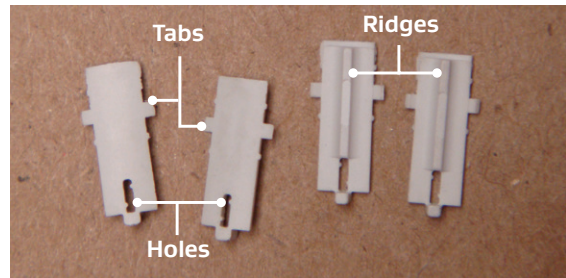
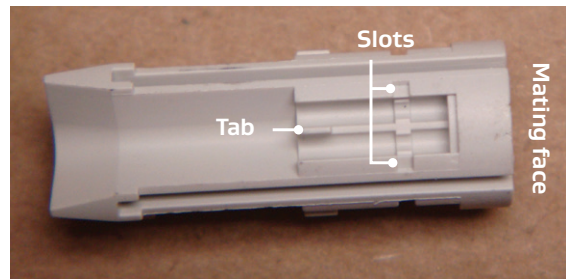
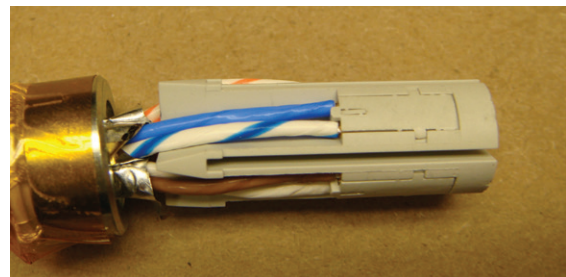

Figure 32: Retention sectors
Figure 33: Tabs and slots on connector insert
Figure 34: Ridge facing toward insert
20. Install the retention sectors over the contacts (Figure 32). Both tabs should fit into the slots near the mating face, and the hole will line up with the tab near the rear of the contacts (Figure 33). The side with the ridge will face toward the insert (Figure 34).